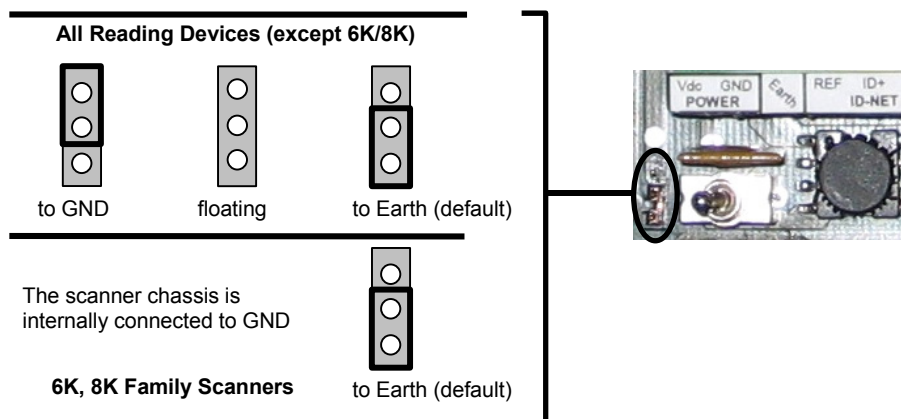

Figure 8 – Chassis Grounding
-	Connect the reading device chassis to earth ground through the jumper, (default setting, see Figure 8).
The reading device chassis grounding method can be selected by positioning a jumper (see Figure 8). In this way the reading device chassis can be connected to earth ground (only if pin Earth is connected to a good earth ground). For all reading devices except 6K/8K, the chassis can alternatively be connected to the power supply ground signal (GND) or it can be left floating but, in this case, the jumper must be removed. For 6K or 8K scanners the chassis is internally connected to GND.